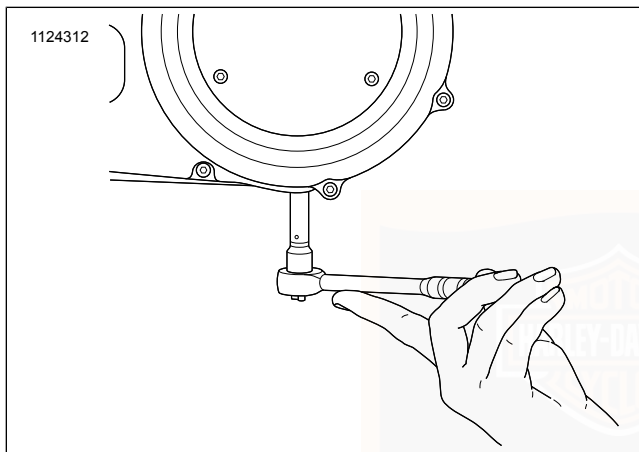

Figure 90. Removal/Installation of Chaincase Drain Plug
3. See Figure 90. Drain primary chaincase.